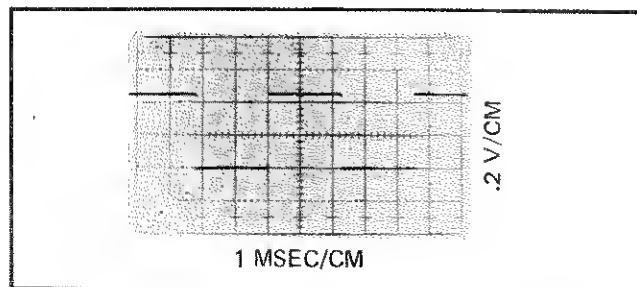

Figure 4-6. MULTIVIBRATOR SIGNAL -- TP9
- d. Compare the oscilloscope display with the waveform shown in Figure 4-6 for amplitude, period, and symmetry. The observed signal parameters should be equal to those of the given signal within  $\pm 10\%$ .